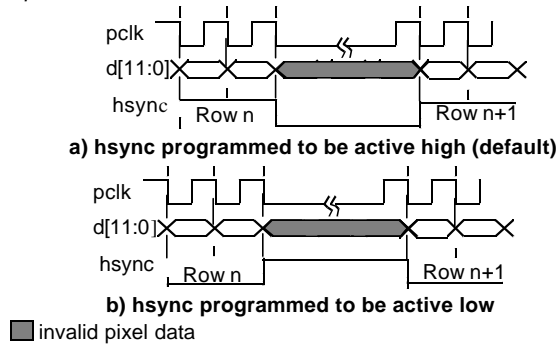

Figure 37. hsync in Level Mode
- Level mode should be used when the pixel clock, *pclk*, is programmed to operate in *free running mode*. In level mode the *hsync* output pin will go to the specified level (high or low) at the start of each row and remain at that level until the last pixel of that row is read out on *d[11:0]* as shown in Figure 37. The *hsync* level is always synchronized to the active edge of *pclk*.